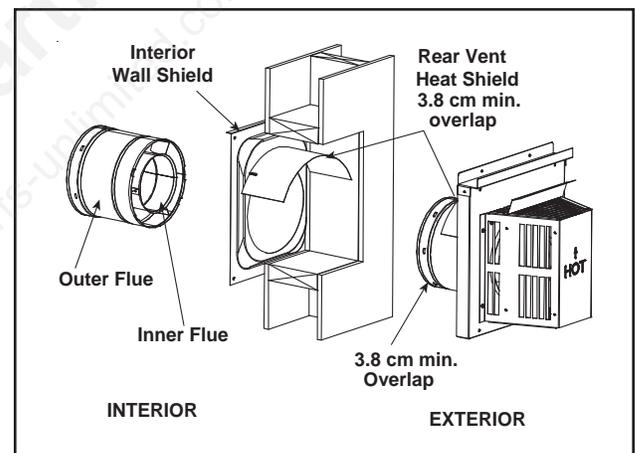

Figure 1.27 Flueing through the Wall
- The small leg in the shield rests on top of the flue to properly space it from the pipe section (see Figure 1.27).